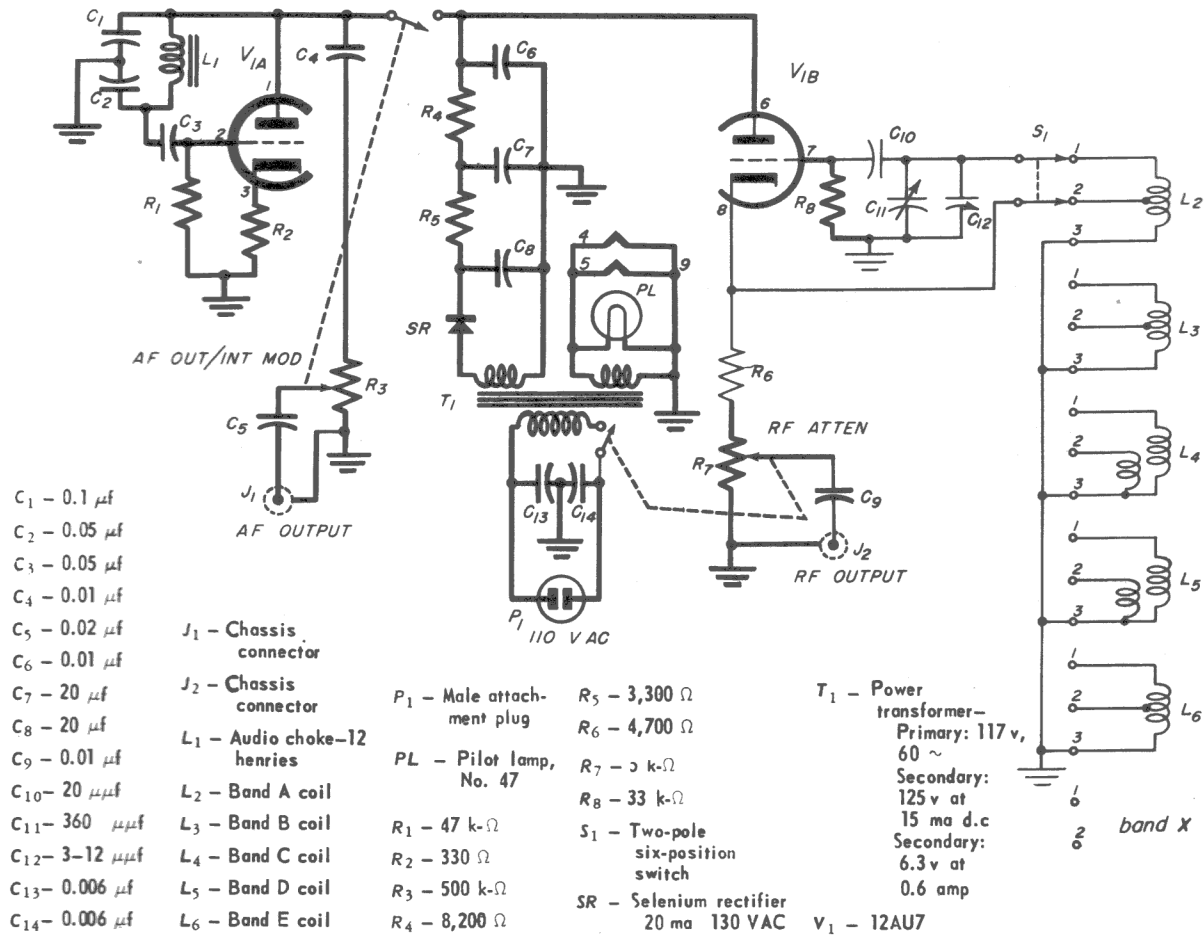
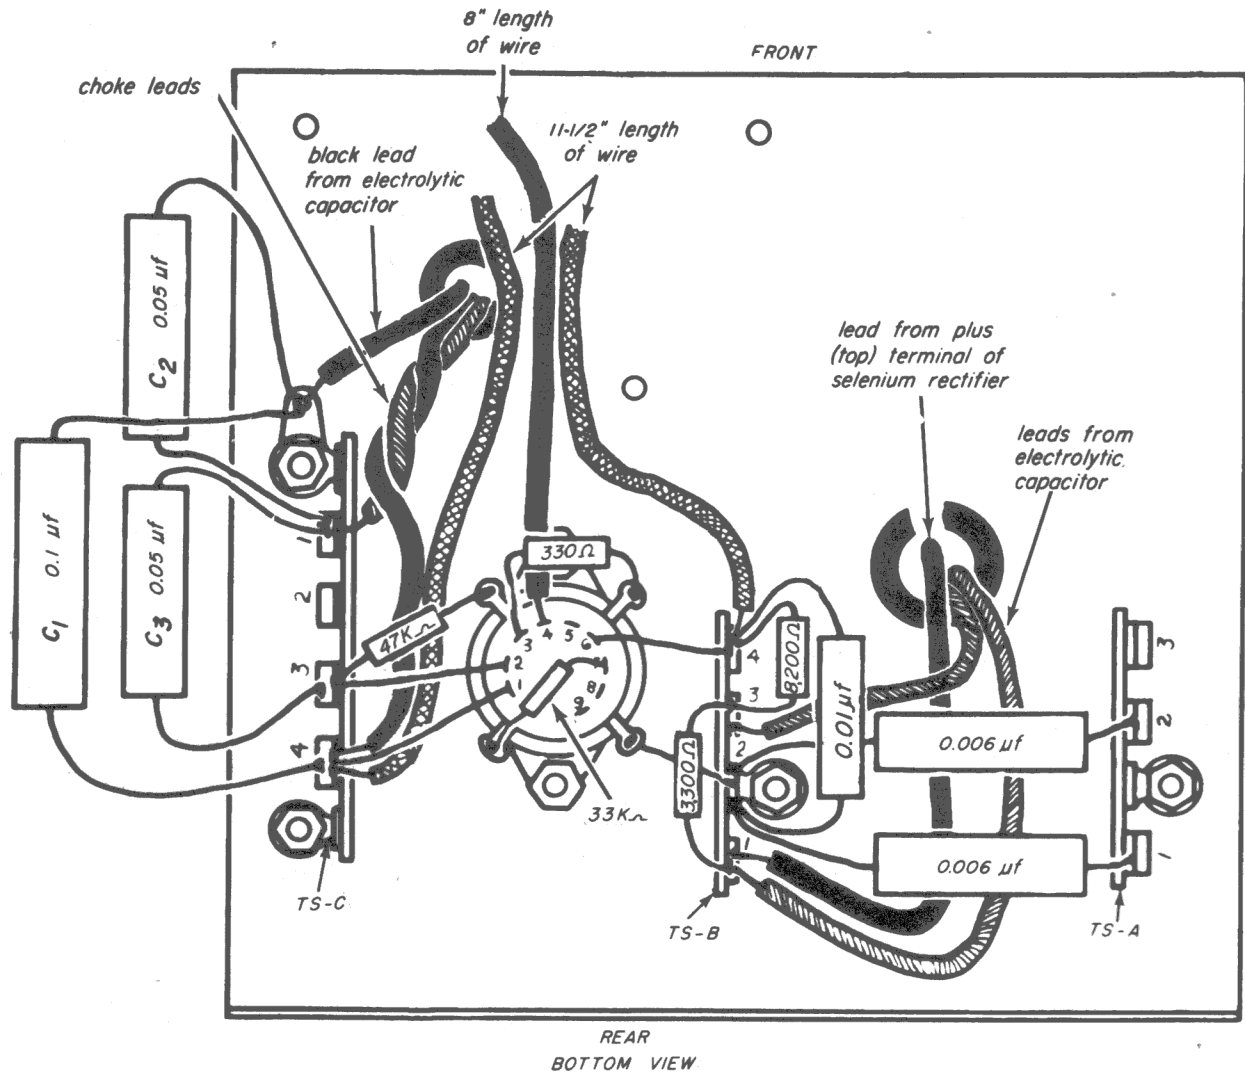

Fig. 20-3
Fig. 20-4
Figure 20-3 shows a schematic diagram of the signal generator you will construct. The part of the diagram shown in heavy lines is the portion that will be completed by the end of this lesson. You will wire the half-wave rectifier circuit, the filter circuit, and the audio oscillator. The r.f. oscillator, and its tuning and bandswitching circuits will be wired in Experiment Lesson 21. Figure 20-4 shows a wiring diagram of what you will do in this experiment. Before starting to wire the signal generator, be certain that you have completed the wiring called for in Experiment Lesson 19.
**Note:** Fig. 20-4 does not show existing wiring on the subchassis. Only wiring added in this lesson is shown.
Step 5. Connect (do not solder) the black lead from the electrolytic capacitor to the grounding lug mounted near lug 1 of TS-C, on the underside of the chassis, as shown in Fig. 20-4.
Step 11. Cut the leads of a 47,000-ohm 1/2 watt resistor (R1) so that they are 1/2 inch long. Connect and solder one end of the resistor to the ground lug near pin 3 on the tube socket, as shown in Fig. 20-4. Connect the other end of the resistor to lug 3 of TS-C. Solder all the connections at lug 3 of TS-C.